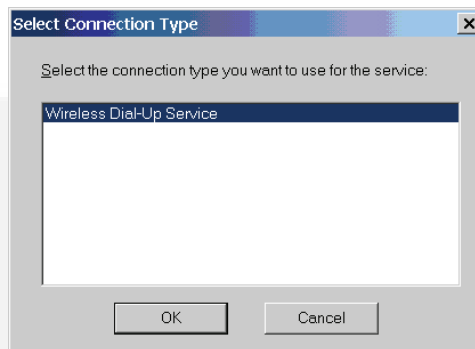

FIGURE 15-6. CONNECTION TYPE
2. In the Select Connection Type window, select the **Wireless Dial-Up Service**, and click on the **OK** button (Figure 15-6).